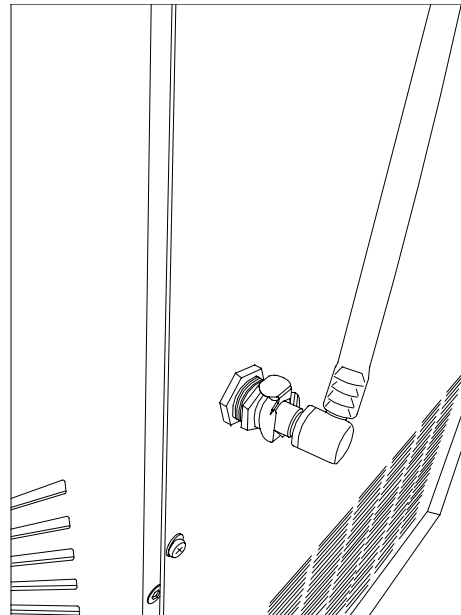

fig. 137
- To remove the container for the disinfection medium, first loosen the rapid action hose (fig. 137). Then remove the container from the supports.